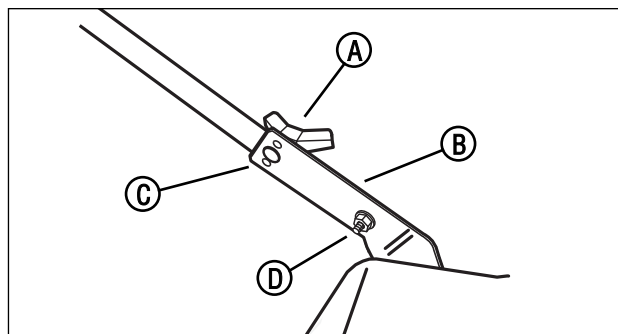

Figure 1: Unfolding the lower handle
3. Remove the wingnuts (**A**, **Figure 1**), washers (not shown), and bolts from the right and left handle brackets (**B**).